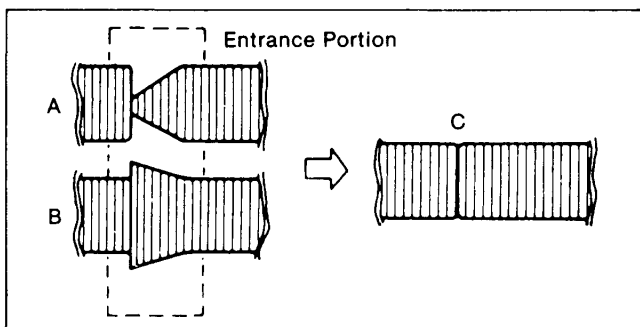

Figure M20
1. Connect the scope to TP3005 (RF) on the video (1) board and TP2201 on the servo TP board to Ext-trigger the scope.
4. If the RF envelope appears like example A or B in Figure M20 then adjustment of the tape guide post (P2 : Entrance) is necessary.
5. Adjust the tape guide post (P2) with the post adjustment screwdriver so that the RF envelope waveform at the entrance portion becomes flat as shown in Figure M20-C.